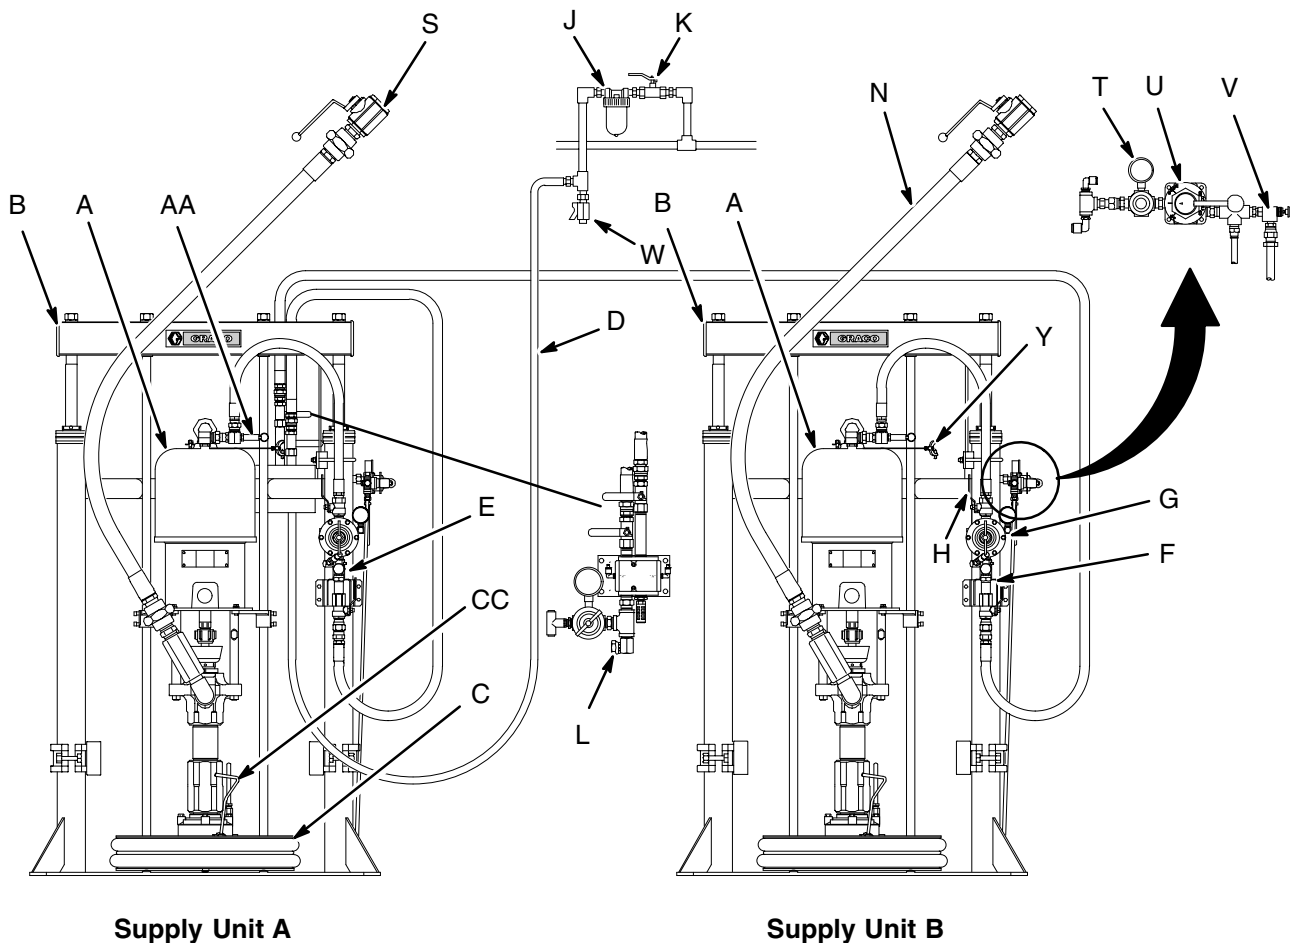

Fig. 1
Model 970019 includes a dual 55 gallon supply unit with pneumatic crossover for continuous material supply. Model 970020 includes a dual 55 gallon supply unit with electric crossover for continuous material supply. Model 970021 is a single 55 gallon supply unit with a low-level shutoff. See Fig. 1.
Be sure all air hoses (D) and fluid hoses (N) are properly sized and pressure-rated for your system. Use only electrically conductive hoses. See Fig. 1.